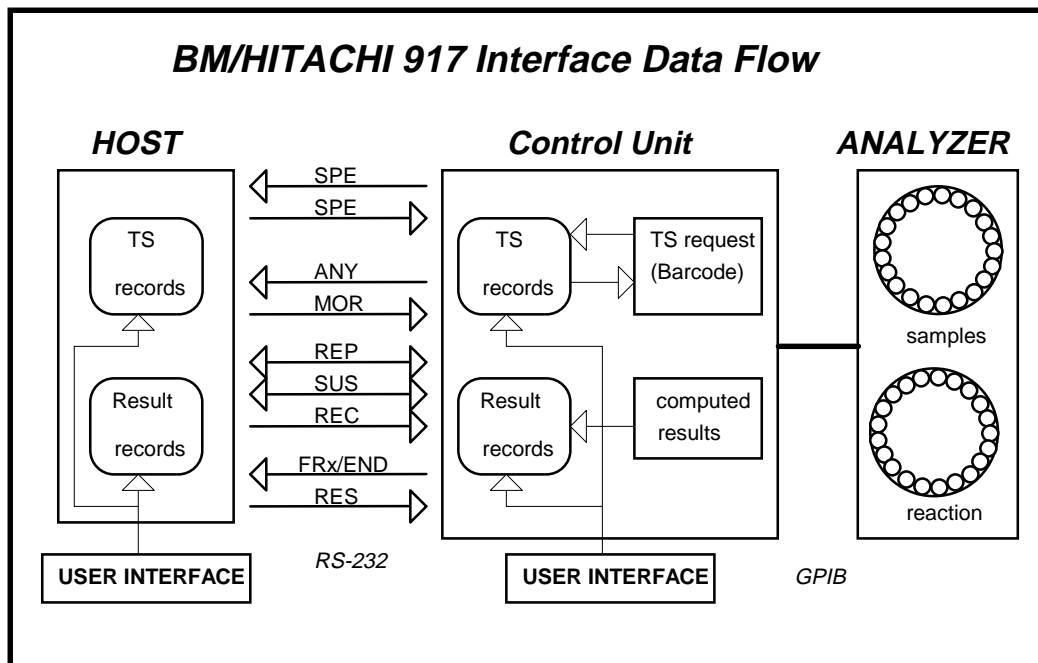

Figure 1: BM/HITACHI 917 Interface data flow
Figure 1 gives an general idea of the 917 interface data flow between the analyzer, the control unit (CU) and the host system. More detailed description will be found in this document.